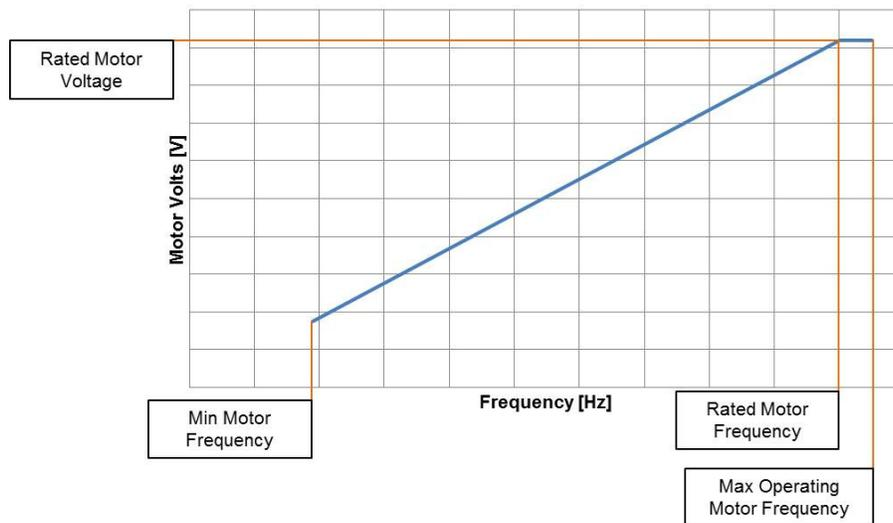

Fig. 14 — Sample Compressor Motor Voltage Curves
Figure 14 shows two sample voltage curves showing compressor motor voltage (V) versus operating speed (Hz). As shown in the graph, the motor voltage is lowered at lower operating speeds while maintaining a fixed Volts/ Hz value. 06ZC and 06ZF models allow operation at higher speeds than "nominal" and is expected that the drive will be in constant horse-power output (fixed voltage) during that operation.